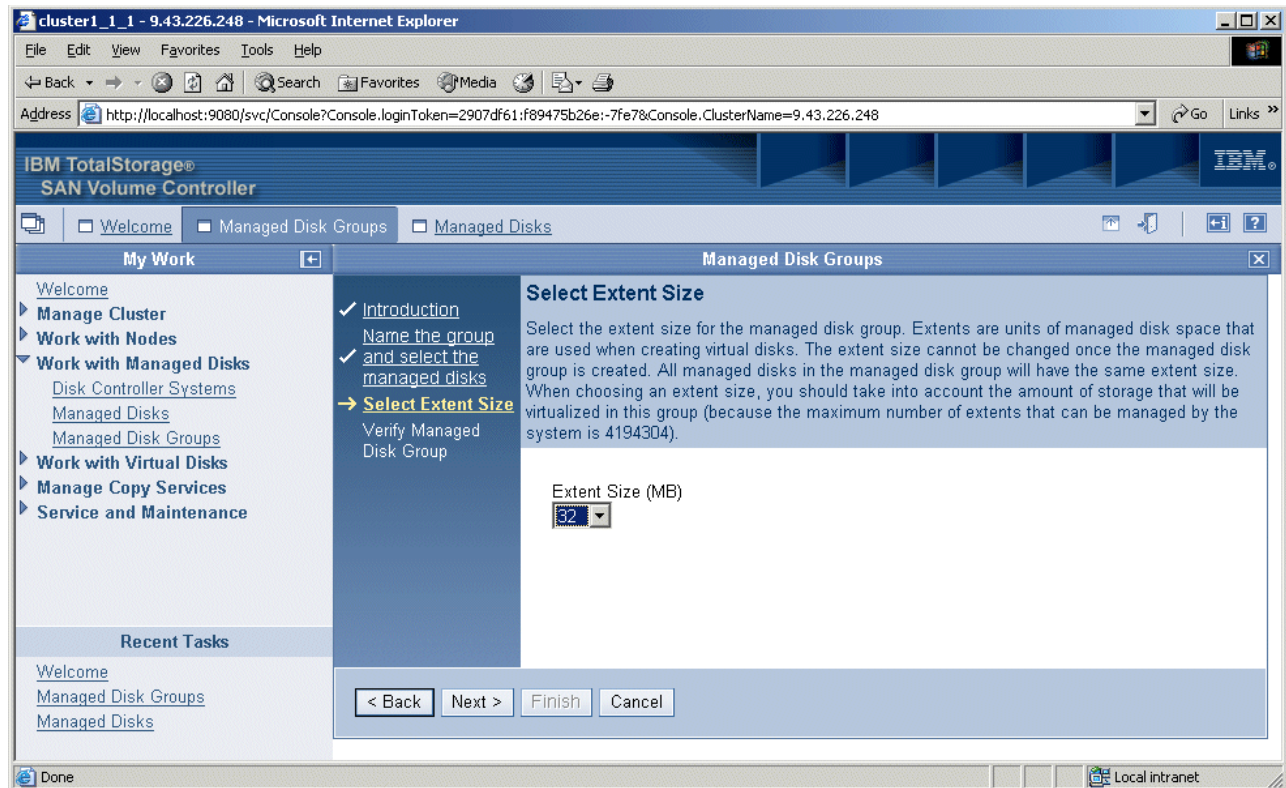

Figure 6-28 Select Extent Size panel
6. From the list shown in Figure 6-28, select the extent size you want to use. Then click **Next**.